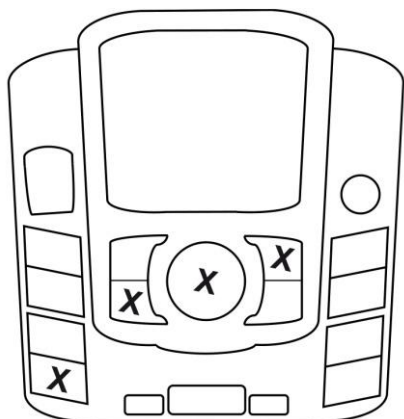
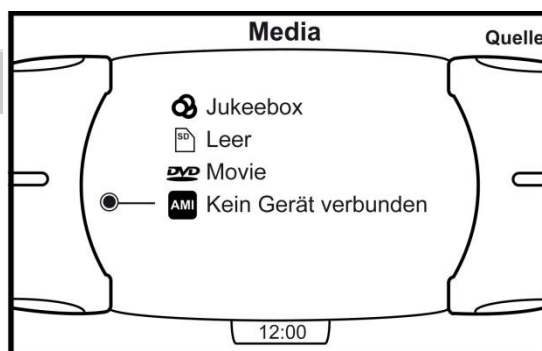

Fig. 9
Fig. 10
12. Simultaneously press the (X) buttons marked in Figure 9. It is carried out an MMI RESET. After a successful reboot Fig. 10 published.